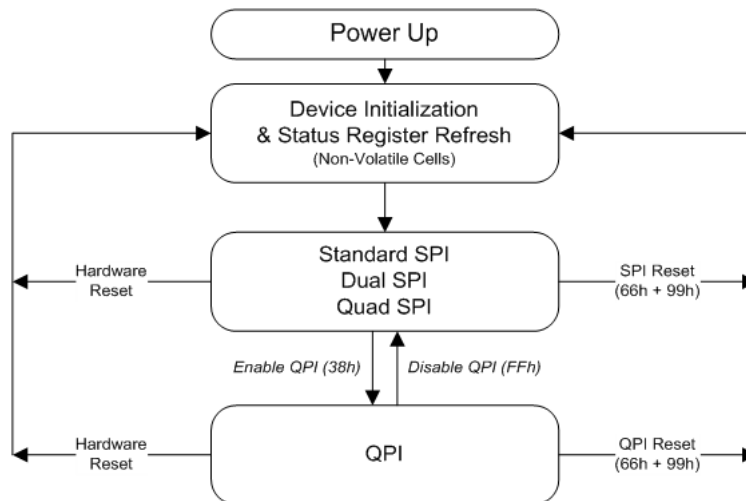

Figure 7: SPI Mode Operation Diagram
enable QPI mode, the non-volatile Quad Enable bit (QE) in Status Register-2 must be set. See Figure 7. When using QPI instructions, the DI and DO pins become bidirectional IO0 and IO1, and the /WP and /HOLD pins become IO2 and IO3 respectively. See Figure 7 for the device operation modes.
Figure 7 is a schematic diagram that shows the SPI and QPI operations of the W77Q32JW/W77Q16JW Serial Flash Memory
Instructions vary in length from a single byte to several bytes and may be followed by address bytes, data bytes, dummy bytes (don't care), and in some cases, a combination of bytes. Instructions are completed with the rising edge of edge /CS. Clock-relative timing diagrams for each instruction are included in Figure 7 through Figure 24. All read instructions can be completed after any clocked bit. However, all instructions that Write, Program, or Erase must complete on a byte boundary (/CS driven high after a full 8-bits have been clocked), otherwise the instruction will be ignored. This feature further protects the device from inadvertent writes. Additionally, while the memory is being programmed or erased, or when the Status Register is being written, all instructions except for Read Status Register will be ignored until the program or erase cycle has completed.